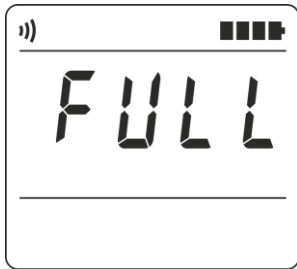

Figure 2.7 – LCD of the radiometer
2.3.3.6.26 If “FULL” characters are displayed on the LCD of the radiometer after you press SAVE button (Figure 2.7), there is no free space in the nonvolatile memory of the radiometer, and, correspondingly, the next measurement results cannot be saved.